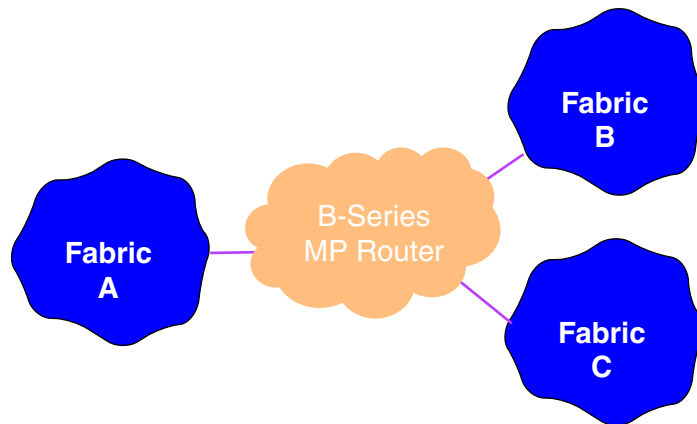

Figure 14: Basic MP Router configuration
- Connecting several fabrics using a router (Figure 14 on page 70)
- A B-Series Multi-Protocol Router (MP Router) connects independent fabrics (SAN islands), as shown in Figure 14.
Figure 14 on page 70 shows Fabric A, Fabric B, and Fabric C, each containing one or more switches. Any B-Series switch can be used in these fabrics. In each fabric, the switches must run the same version of switch firmware and must have the same variable settings (for example, `R_A_TOV`). Each fabric has a unique set of fabric services. See "B-Series switches and fabric rules" on page 81 for fabric restrictions.